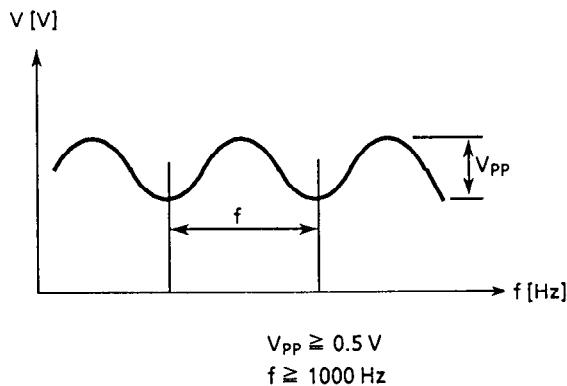

Figure 18
- Do not apply any ripple voltage under the condition in Figure 18 to  $V_{\text{IN}}$  terminal.